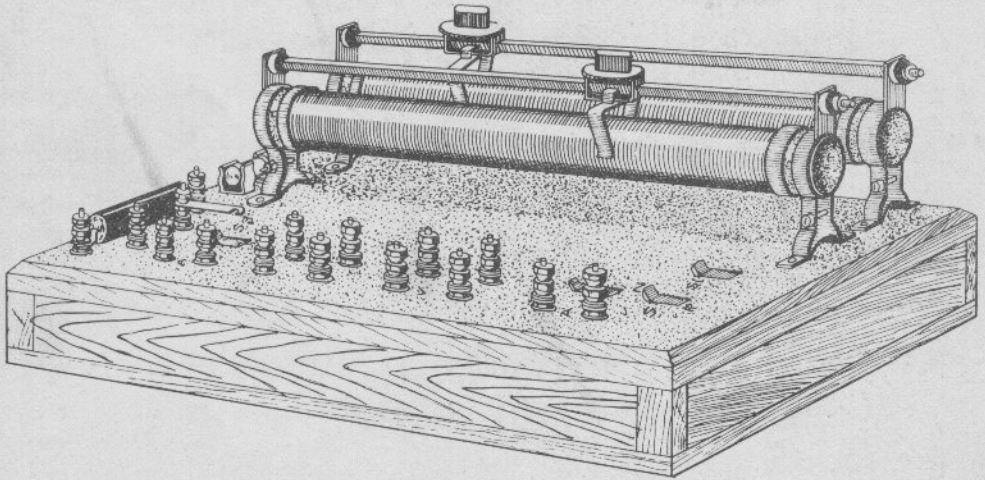

Figure 56. A-c. test board
Electrical tests for operating values on Type B2 vane relays are made with test board, Figure 56. The board consists of:
- (a) Connect the relay and instruments to the resistance test board as shown in circuit, Figure 56. The voltage and frequency of the supply is to be at the rated values for the local element.